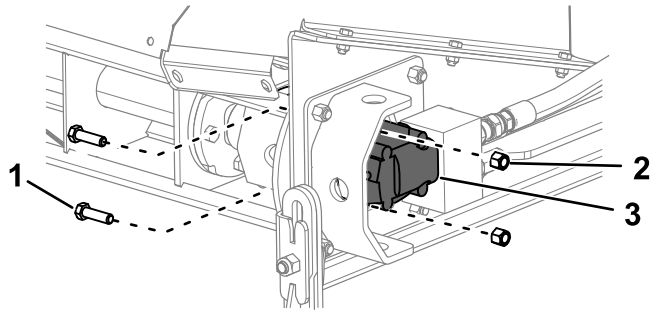

Figure 11
5. Remove the 2 bolts (1/2 x 1-3/4 inch) and 2 locknuts (1/2 inch) securing the motor assembly and remove the motor assembly (Figure 11).
10. Install the motor assembly (Figure 11).